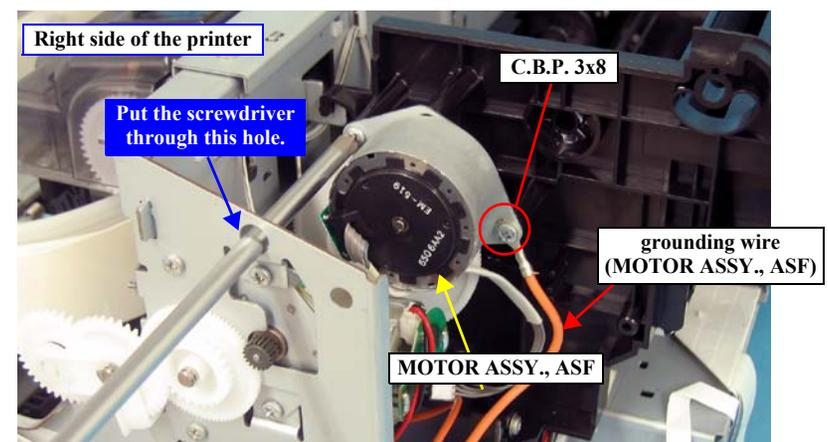

Figure 4-150. Removing the screws from the MOTOR ASSY., ASF
7. Remove the screw that secures the grounding wire of the MOTOR ASSY., ASF and remove the wire. *See Figure 4-150.*